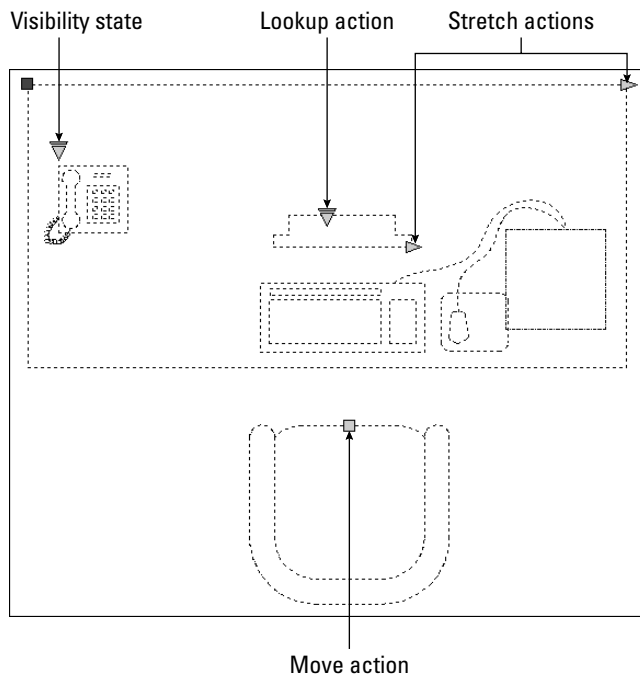

Figure 18-27: When you select a dynamic block, you see grips for its dynamic features.
26. Select the DeskSet block. It should look like Figure 18-27.